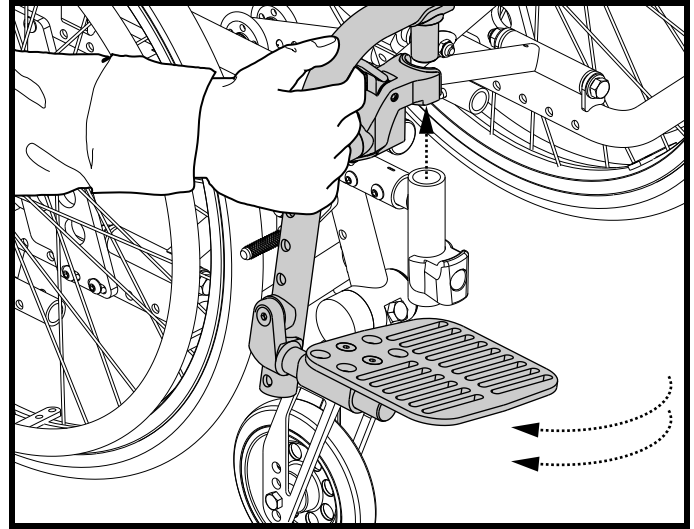

Figure 19. SFR Removal
2. Pull the SFR up. See figure 19.